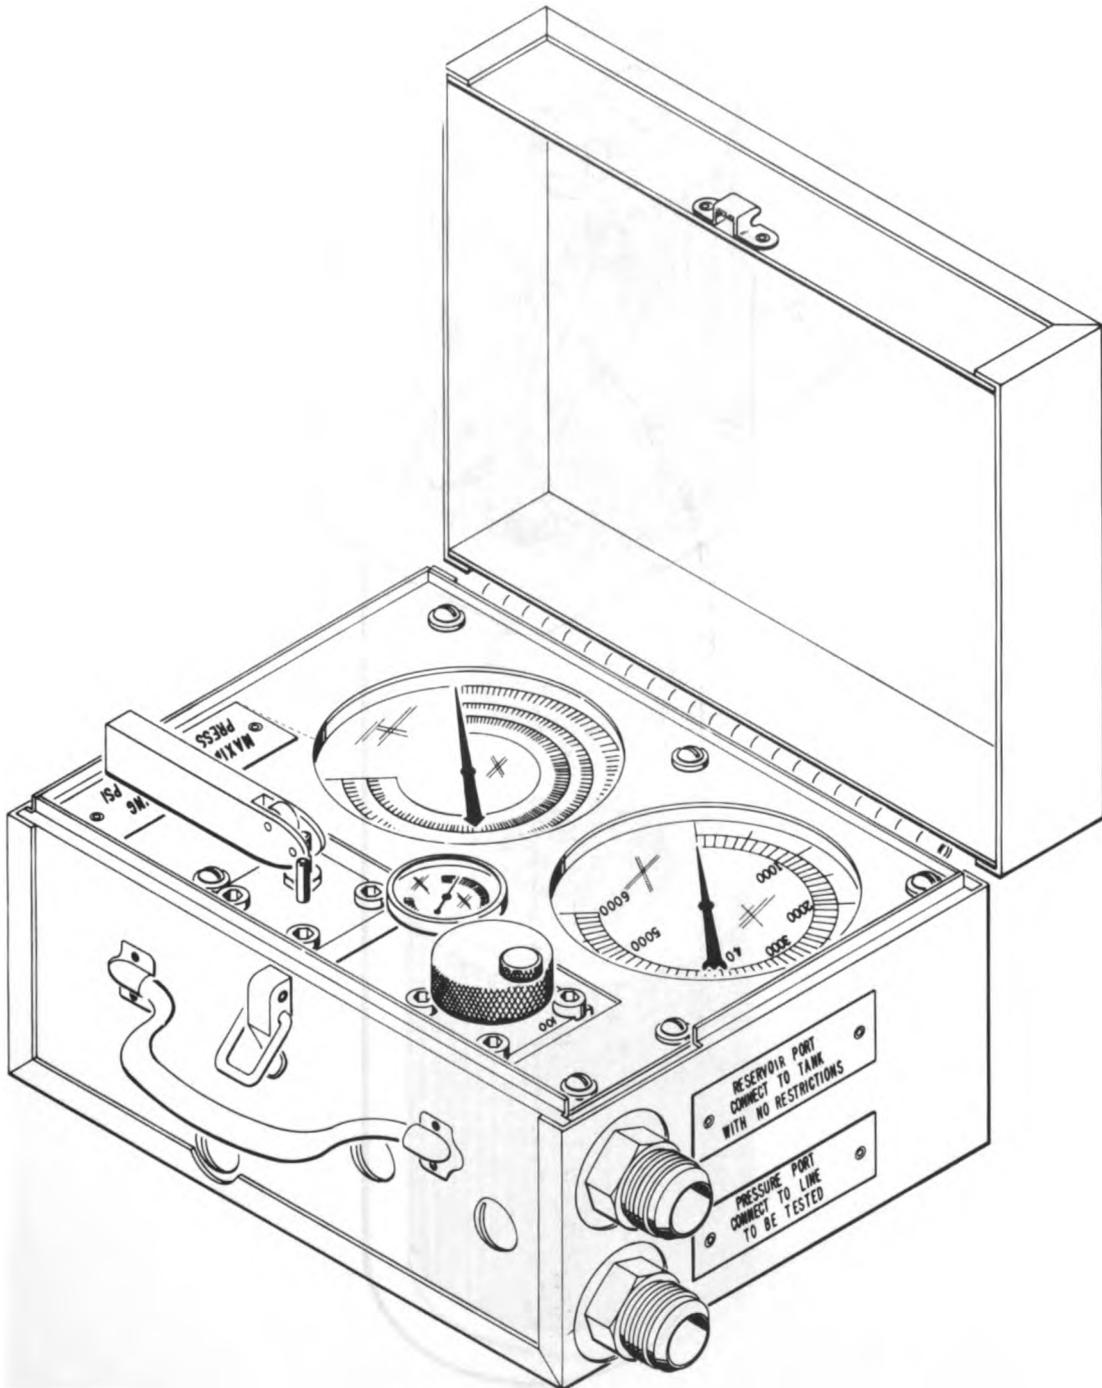

Figure 1-20. Hydraulic Systems Tester.
e. *Hydraulic Systems Tester.* Conditions which may be measured when diagnosing a hydraulic system malfunction are pressure, flow, and temperature. When it is to be used, the tester (figure 1-20) is connected into the hydraulic system being tested, and fault diagnosis is made by a logical sequence of loading a hydraulic circuit and measuring pressures, flows, and temperatures. In this manner, pressure settings can be determined, internal leakage can be measured, and malfunctioning components and hot spots can be found. This tester measures temperatures from 50° to 240°F, flows from 1 to 100 GPM, and pressures from 200 to 6000 PSI. The tester weighs about thirty pounds.